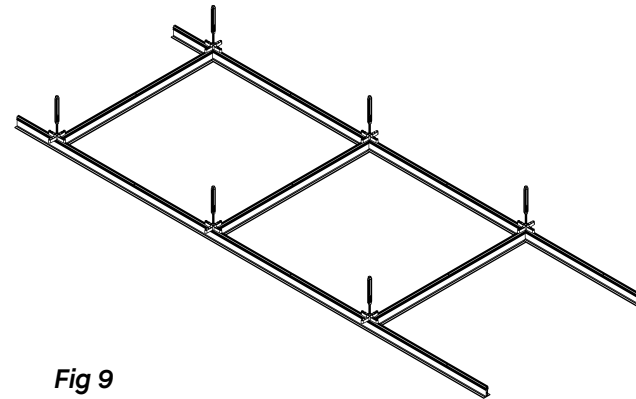

Fig 9
3.4 Cut threaded rod hanging from the deck 11" above the finished ceiling height. Install threaded rods, nuts, and turnbuckles into the X-Bracket (DMXB) every 4' O.C. The threaded starter-rods must be fully engaged with the DMXB and it is recommended that three threads are exposed in the turnbuckle (**Fig 9**).